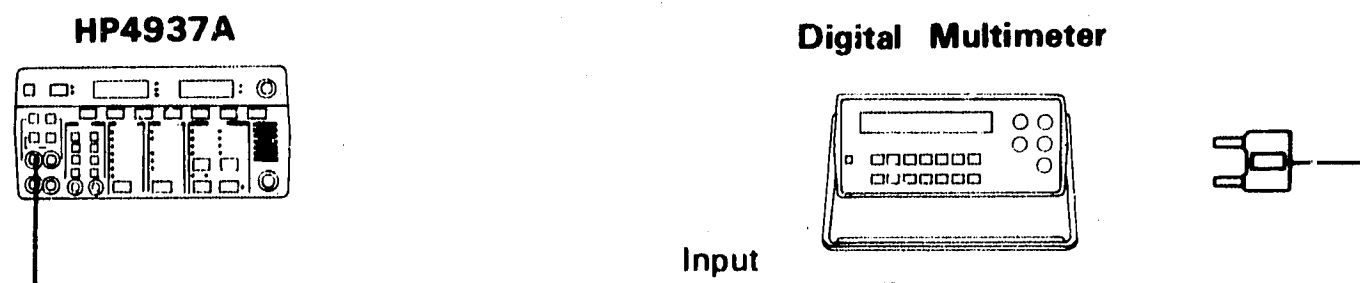

Figure 4-11. Signaling Voltage Test
1. Connect equipment as shown in figure 4-11.